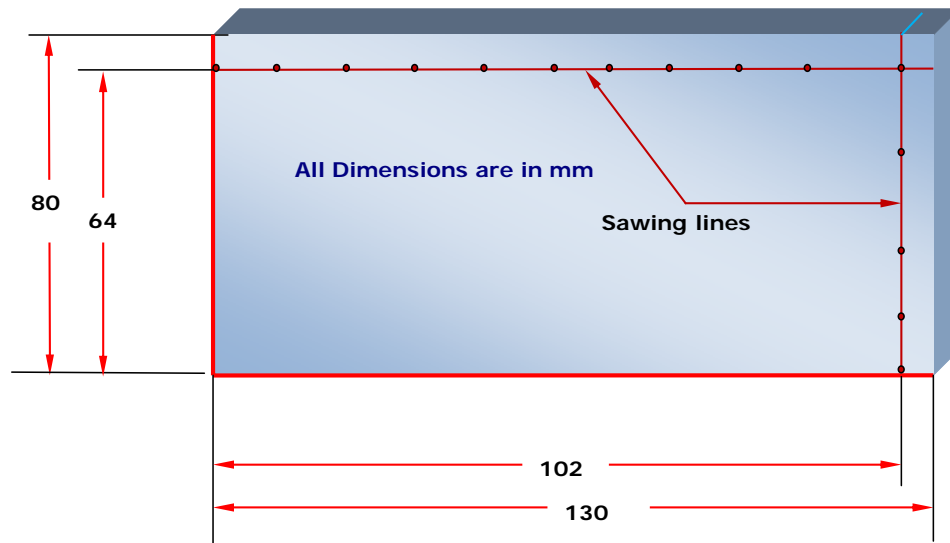

Fig 4.11: The sawing lines.
6. Use the hacksaw to cut the workpiece as explained in section 4.6. Use the marked sawing lines shown in Fig.4.11 to guide the cutting process.